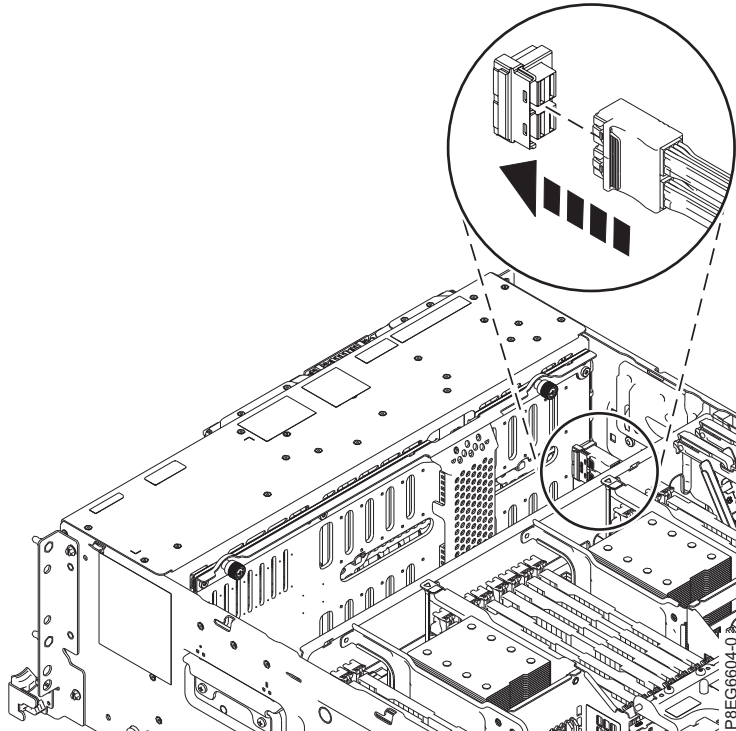

Figure 10. Reconnecting the SAS cable to the disk drive backplane
9. Reconnect the front SAS cable to the connector port on the disk drive backplane, as shown in Figure 10 on page 11. Push the connector in until the connector latch clicks. Arrange the cables against the side of the chassis.